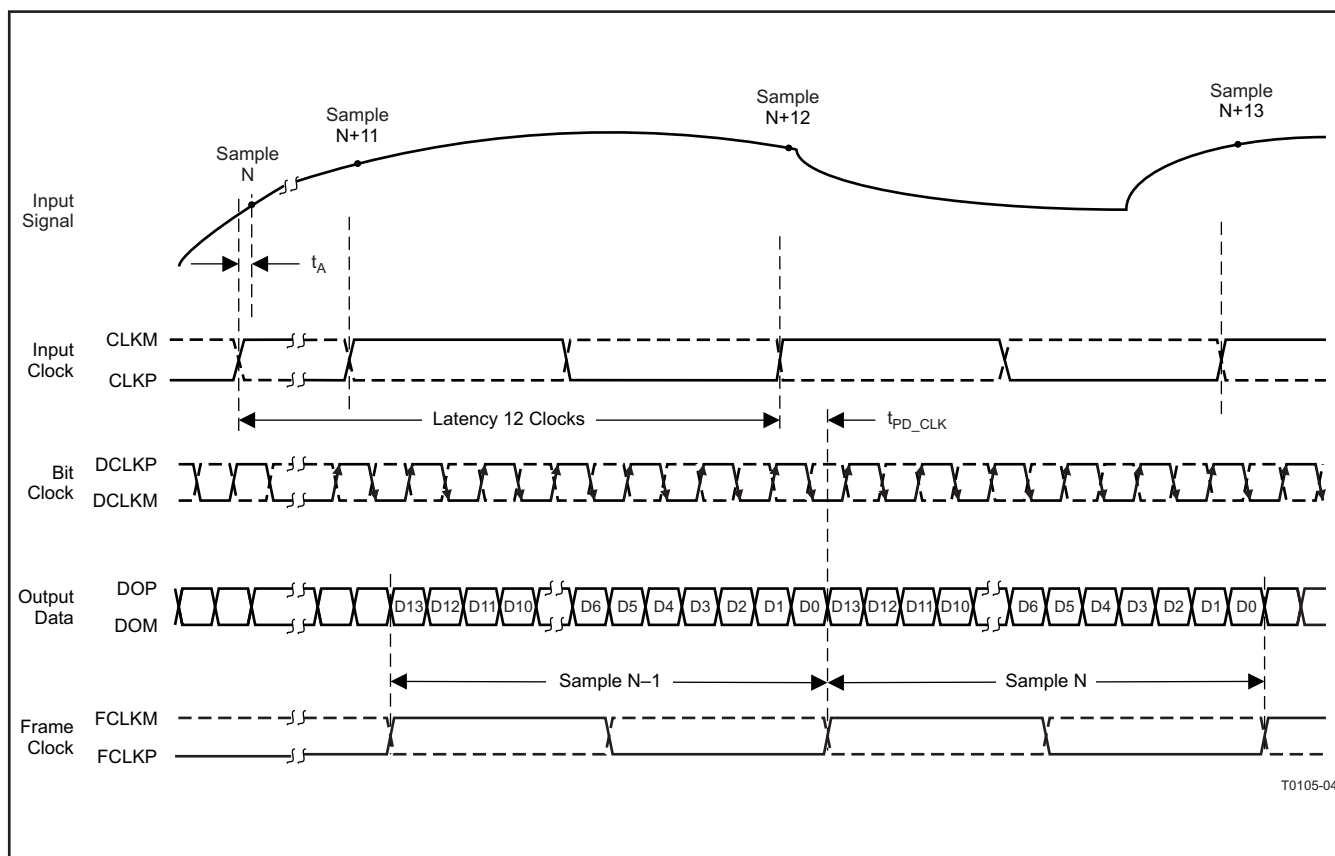

Figure 1. Latency
|  | ADC Latency (7)                    | Time for a sample to propagate to ADC outputs, see <a href="#">Figure 1</a> | 12      |      |     | 12      |      |     | 12      |      |     | 12      |     |     | Clock cycles |